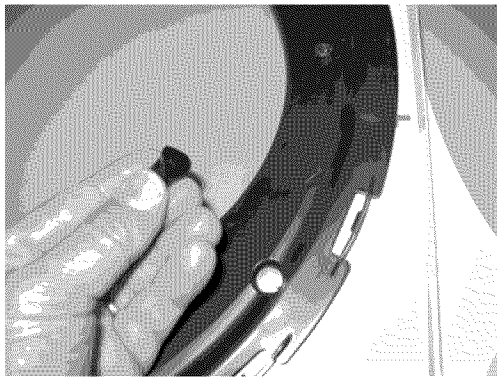

Figure 9
10. Remove two (2) transition ring plugs and reinstall on previous handle side. (Figures 9 and 10)